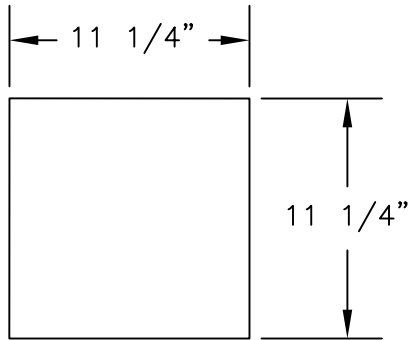

FIG. 1
1. CUT LUMINAIRE OPENING (11 1/4" X 11 1/4") IN THE DESIRED LOCATION BETWEEN STUDS IN DRYWALL. (FIG. 1)